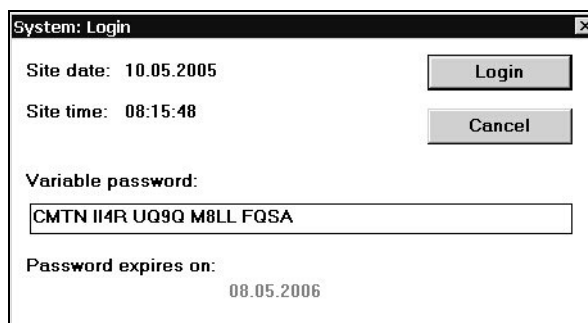
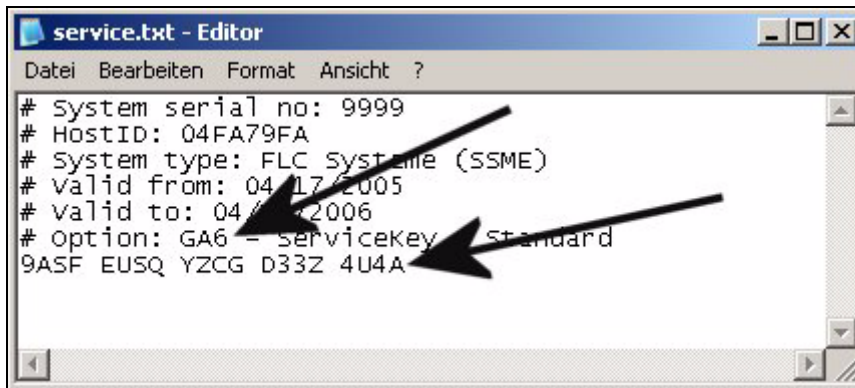

Fig. 7
Fig. 8
- Enter the variable password as written in the "service.txt" file on the license disc (Fig. 8) in the "System: Login" window (Fig. 7) and confirm with "Login".